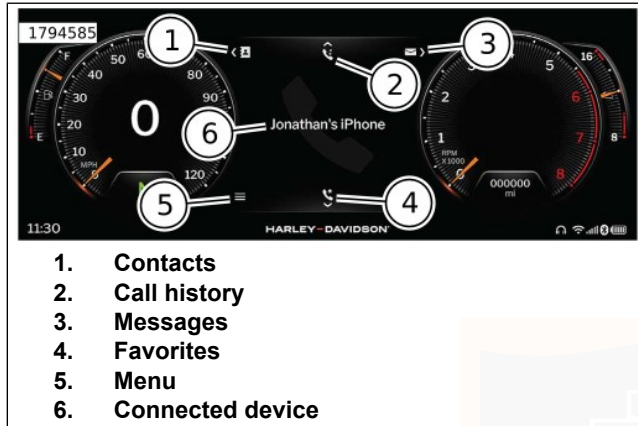

Figure 81. Phone Selections
2. Select one of the phone features. See Figure 81.
2. See Figure 81. Select contacts (1) or call history (2) to find contact number.
See Figure 81. To access messages select Message Icon(3).